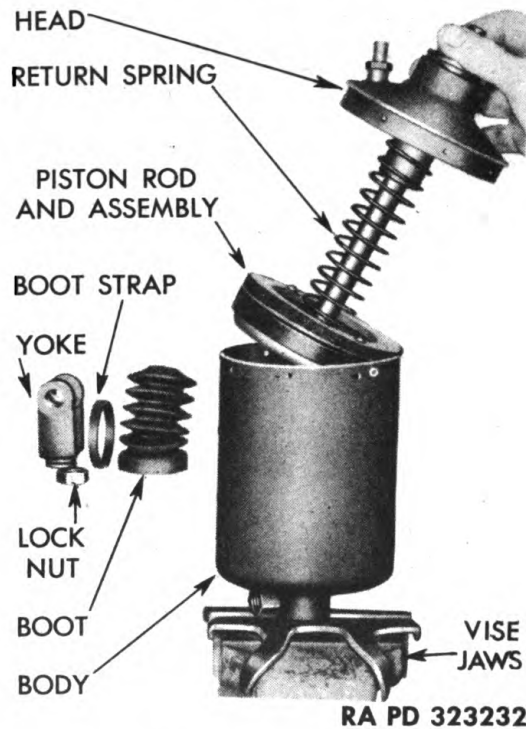

Figure 237 — Removing Piston and Rod Assembly Return Spring and Head
(1) **REMOVE YOKE** (fig. 237). Slip rubber boot off yoke and over lock nut. Loosen lock nut from yoke, and unscrew yoke and lock nut from piston rod.
(2) **REMOVE RUBBER BOOT** (fig. 237). Slip boot strap off boot at cylinder head end, using a small blunt tool. Pinch the beaded end of boot out of groove in cylinder head, and slit boot off head. Remove boot strap.
(3) **REMOVE PISTON AND ROD ASSEMBLY** (fig. 237). **NOTE:** Place a punch mark on cylinder body, and another next to it on the outer rim of the head. These marks will locate the head in the same position on cylinder when it is assembled later. Remove machine screws and lock washers attaching power cylinder body to head. Pull cylinder head out of cylinder body. Pull piston and rod with return spring out of cylinder body.
(3) **INSTALL PISTON AND ROD ASSEMBLY** (fig. 237). Oil inner surface of cylinder and outer surface of piston and rod assembly with clean engine oil. Coat return spring with preservative lubricating oil. Hold piston at a slight angle in cylinder opening, and insert small portion of piston cup in first; then, using the fingers, work remainder of cup lip into cylinder. *NOTE: Care should be exercised when performing this operation to prevent damaging piston cup.* Place piston return spring and cylinder head onto piston rod. Line up punch mark on cylinder head with punch mark on cylinder. Push the two together, making sure cylinder fits over shoulder on head. Line up screw holes, and install machine screws and lock washers.